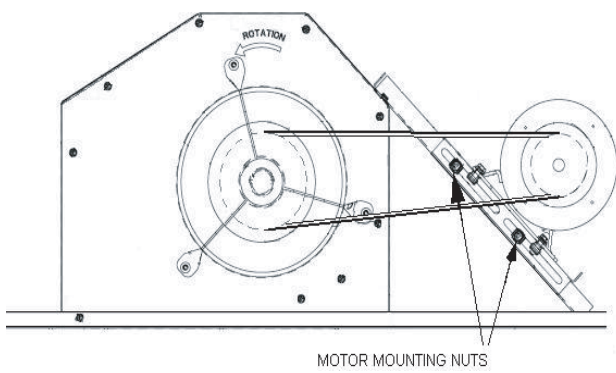

Fig. 40 – Belt Drive Motor Mounting
2. Loosen the belt by loosening the fan motor mounting nuts. (See Fig. 40.)